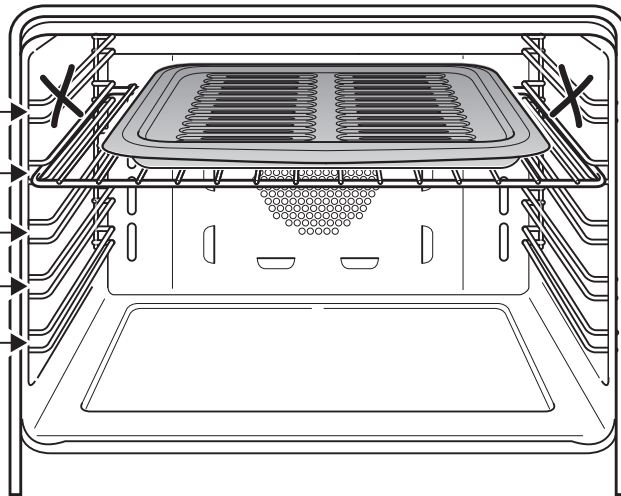
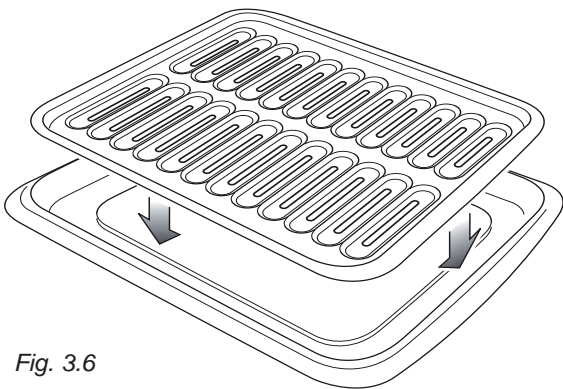

Fig. 3.5
Fig. 3.6
- Position the shelf on the second level from the top (fig. 3.5).
- Introduce the broiling pan in the oven (figs. 3.6 - 3.8). The broiling pan should be placed above the shelf and it should be centered with the broil element (fig. 3.5).